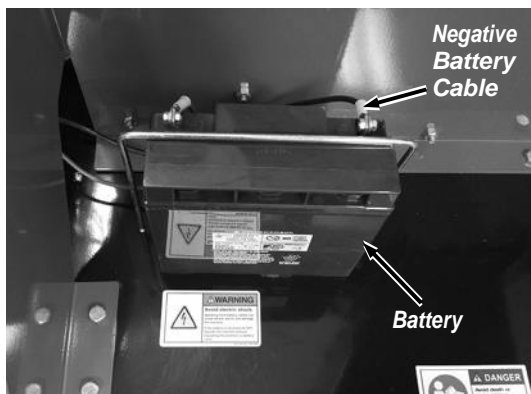

Figure 35
2. Using a 5/16 Wrench and a Phillips Screwdriver, disconnect the negative terminal at the Battery (**Figure 35**).